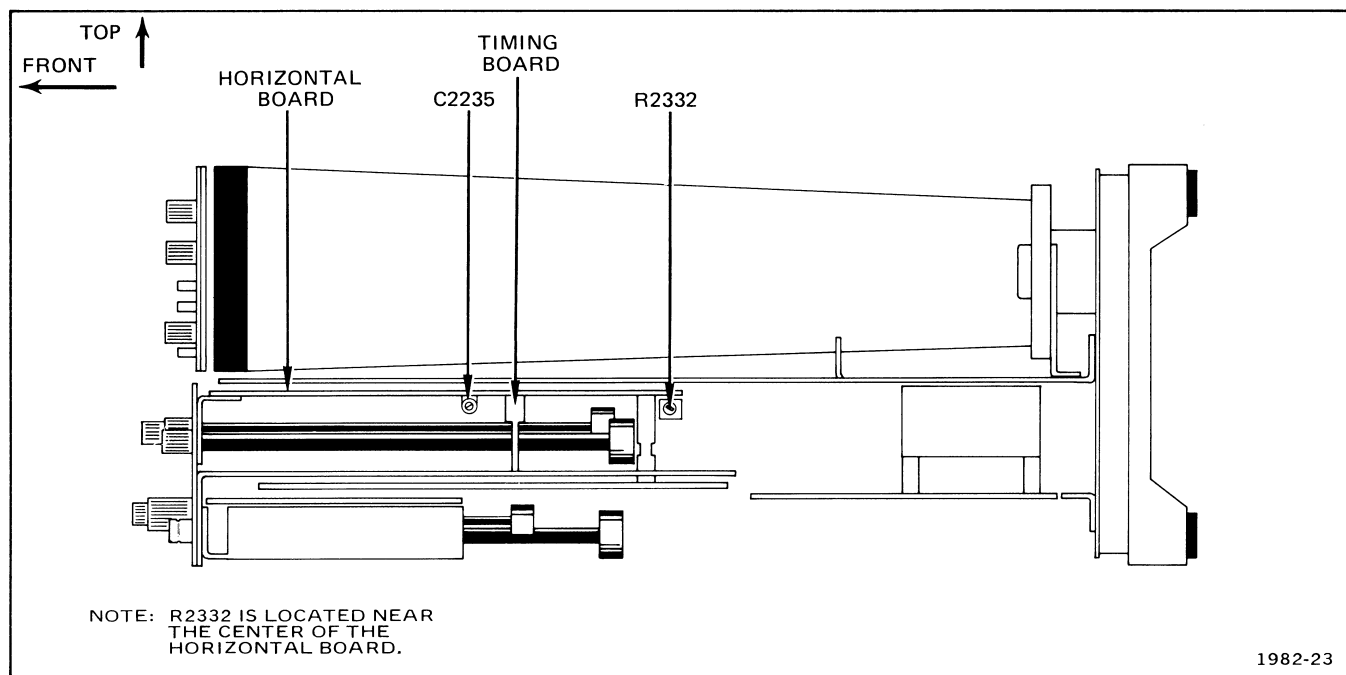

Fig. 4-7. Time base adjustment locations.
b. ADJUST—Horiz Cal R2332 (see Fig. 4-7) and set POSITION controls for 1 time marker per division over center eight divisions.
b. ADJUST—C2235 (see Fig. 4-7) and horizontal POSITION control for 1 marker per division over center eight divisions.